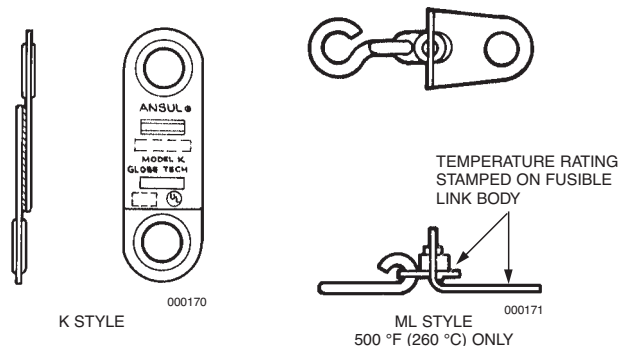

FIGURE 102
► See Figure 102. See Component Section for detailed temperature ratings.